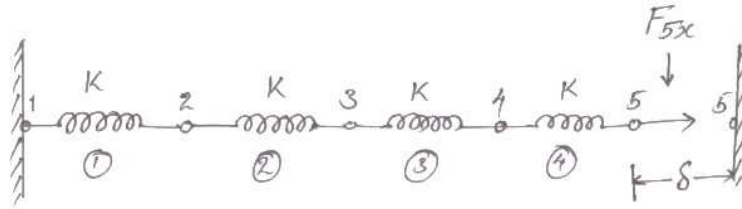

Figure 1:
10. Define the term stiffness matrix and its properties (6)
11. For spring assemblage shown in figure1. Obtain (a) global stiffness matrix (b) The displacements of nodes 2 to 4 (c) The global nodal forces (d) The local elemental forces Node 1 is fixed while node 5 is given as fixed known displacement $\delta = 20\text{ mm}$. the spring constant are all equal to $k = 200\text{ kN/m}$. (6)